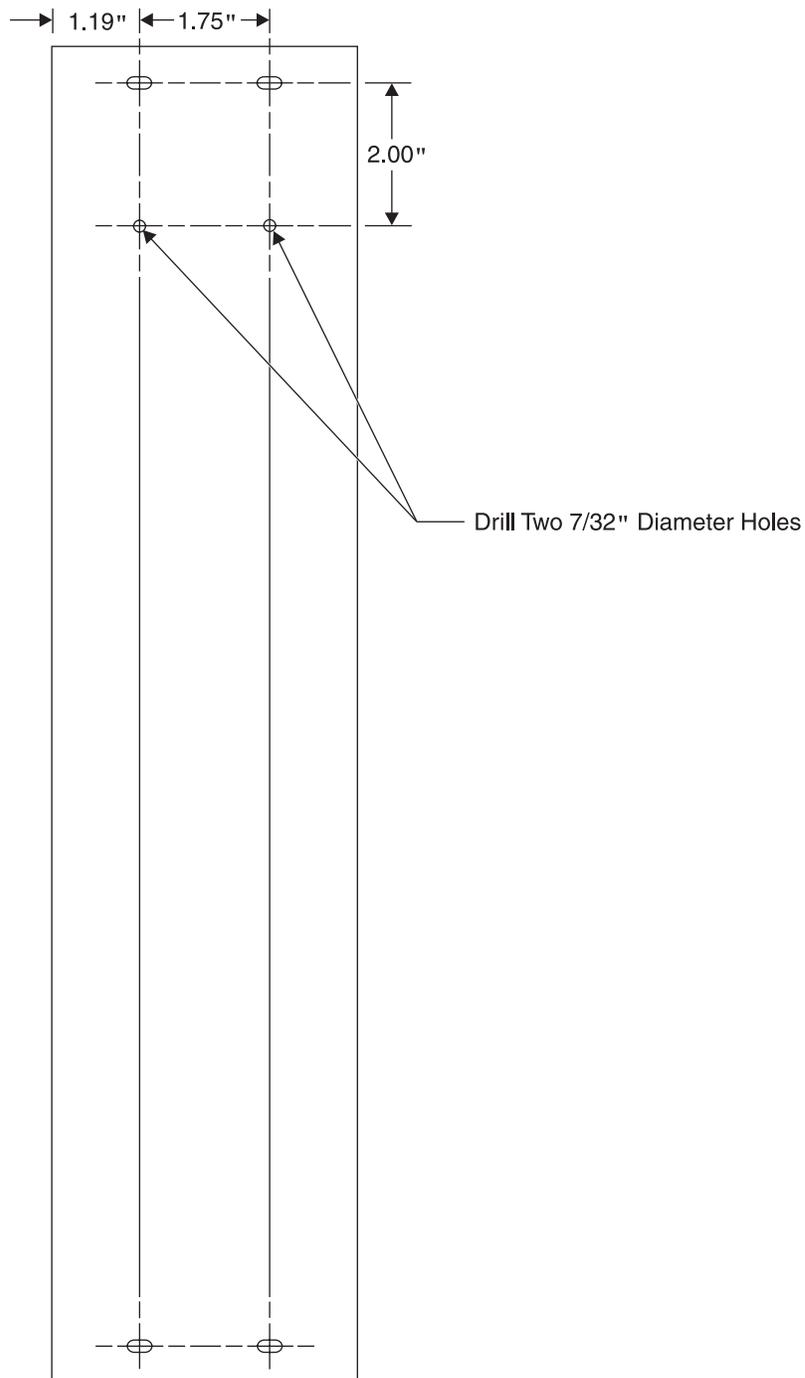

Figure 3
6. Referring to Figure 3, drill two 7/32" diameter holes into the blower close-off panel that was removed earlier.